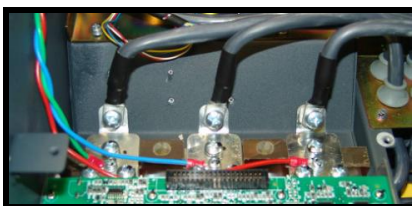

Figure 7.4.22
- 2) Disconnect all cables which are joined to the connections bar and the three cables of dV/dt choke which go to the IGBT (see figure 7.4.22).